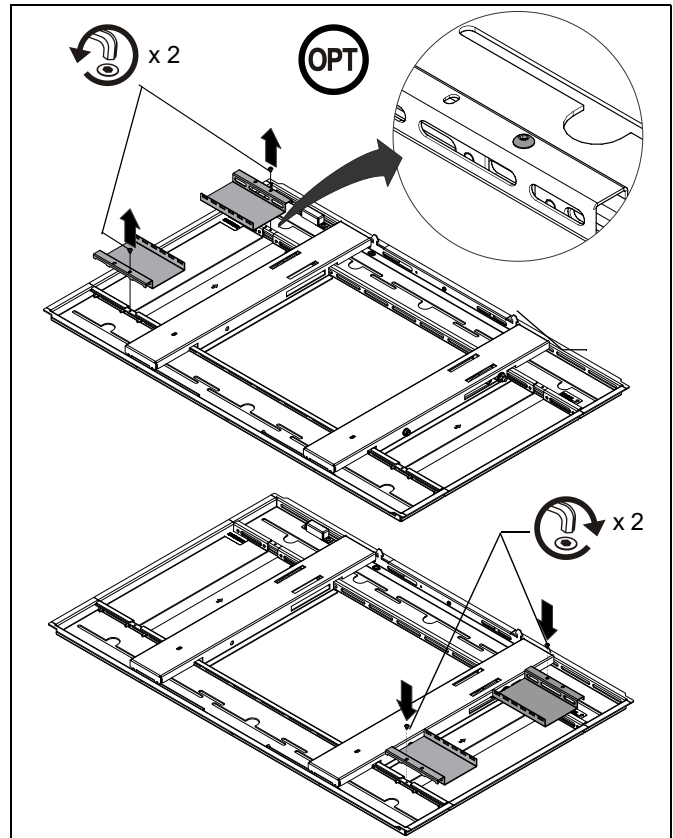

Figure 3
4. **OPTIONAL:** The storage panel can be positioned on either side of the rear frame. Remove the storage panel, then remove the two screws securing the mounting frames. Position the mounting frames on the other side of the rear frame and reinstall the screws. (See Figure 3)